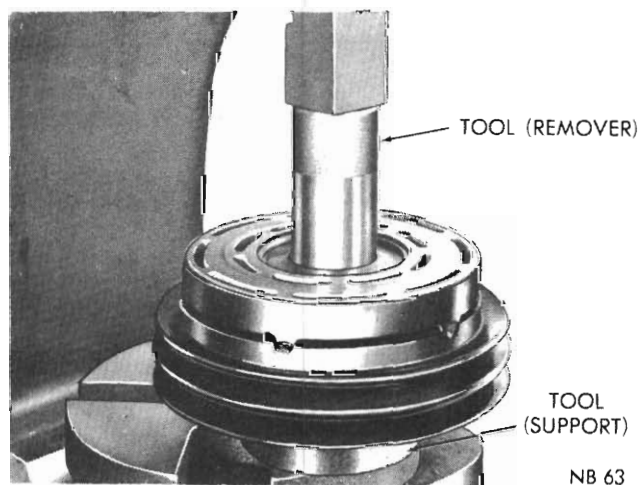

Fig. 21 – Removing bearing from the pulley assembly
(1) Remove the small snap ring from the drive hub with circlip pliers.
(2) With a suitable mandril, support the pulley assembly and drive the hub and shoe from the assembly.
(3) Remove bearing snap ring from pulley.
(4) Place pulley assembly on an arbor press, with pulley side down, and bearing hub centred. Install a mandril on inner race of bearing and press the bearing from pulley assembly (Fig. 21).